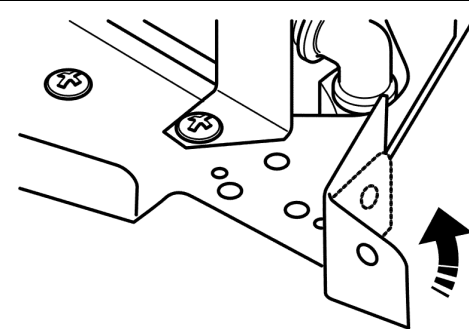

Figure 7. Burner tags
- The two tags at the side of the burner can be folded against the side of the burner tray. This may be required for installations where the width of the fireplace opening is restricted or when fitting into a 'Spanish Basket' casting (See figure 7).